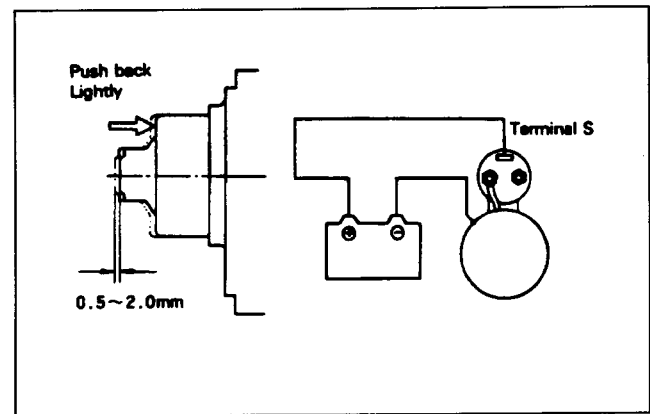

Figure 25
1. Install 12 volt battery between the "S" terminal and the starter body (Fig. 25). The pinion should protrude and stop.